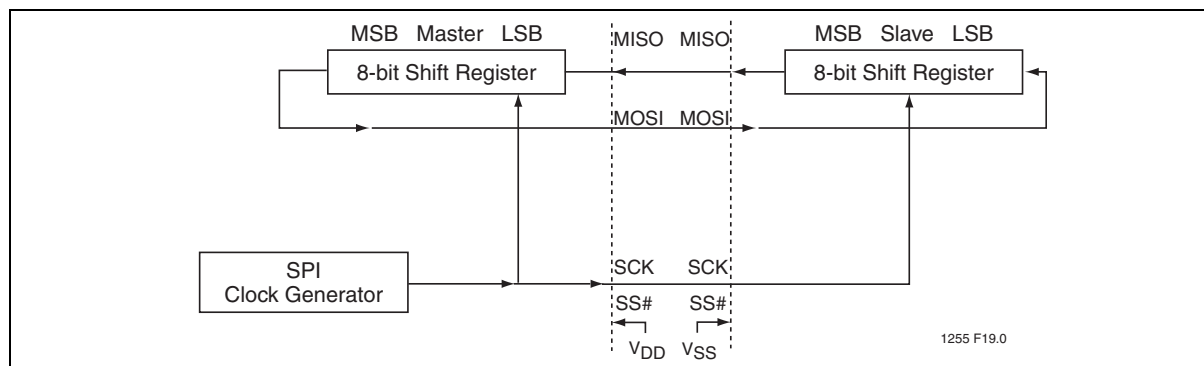

Figure 20:SPI Master-slave Interconnection
Figure 20 shows the correspondence between master and slave SPI devices. The SCK pin is the clock output and input for the master and slave modes, respectively. The SPI clock generator will start following a write to the master devices SPI data register. The written data is then shifted out of the MOSI pin on the master device into the MOSI pin of the slave device. Following a complete transmission of one byte of data, the SPI clock generator is stopped and the SPIF flag is set. An SPI interrupt request will be generated if the SPI Interrupt Enable bit (SPIE) and the Serial Port Interrupt Enable bit (ES) are both set.